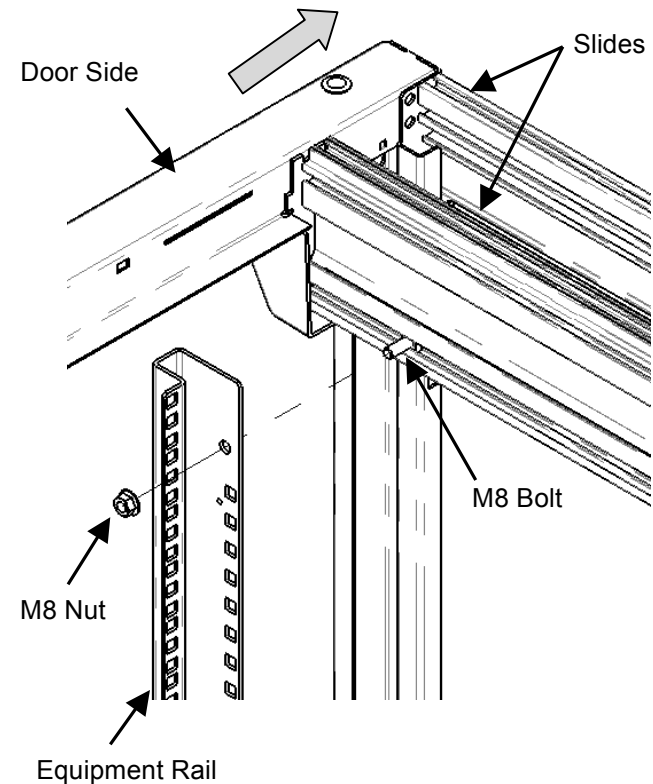

Fig. 4
2. Fasten rail using two M8 Nuts onto two M8 bolts in frame slides (Fig.4).